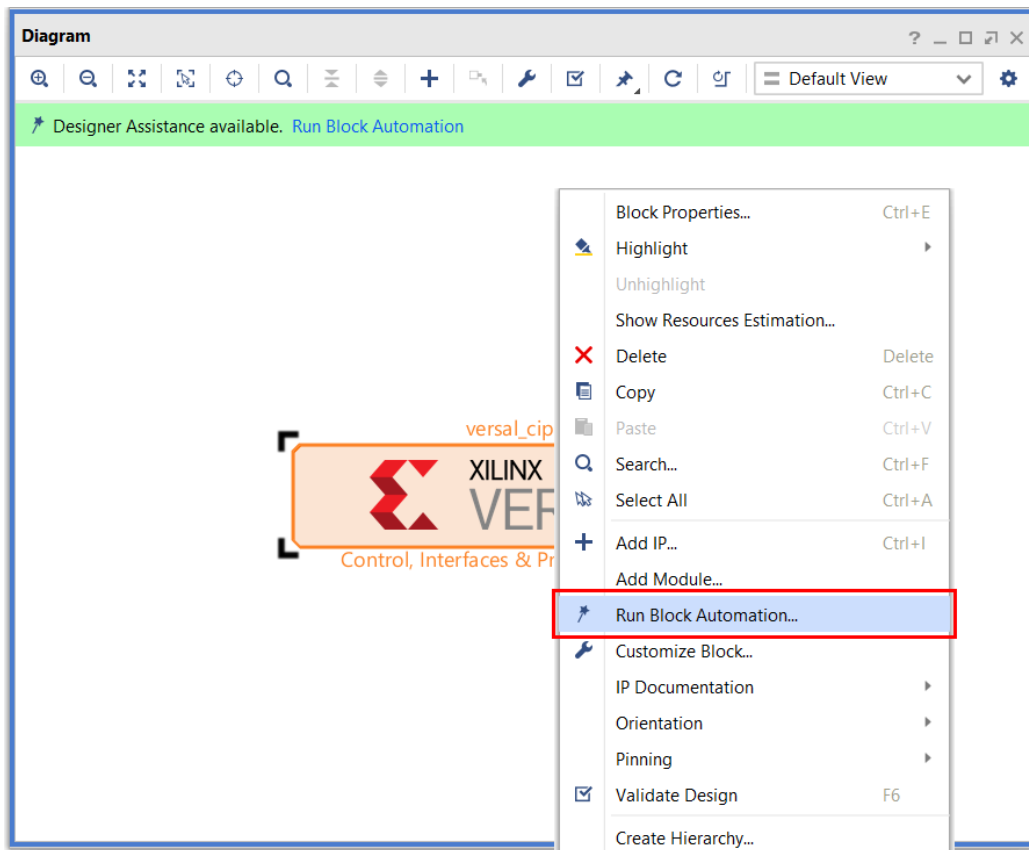

Figure 3: Running Block Automation on the CIPS IP instance
The board file defines a preset for Control Interfaces & Processing System (CIPS) IP that is used by Vivado's Block Automation feature. To use this feature, create a new CIPS IP instance in a Vivado Block Diagram (BD) design. Then right-click on the CIPS IP instance and select **Run Block Automation...** as in Figure 3: